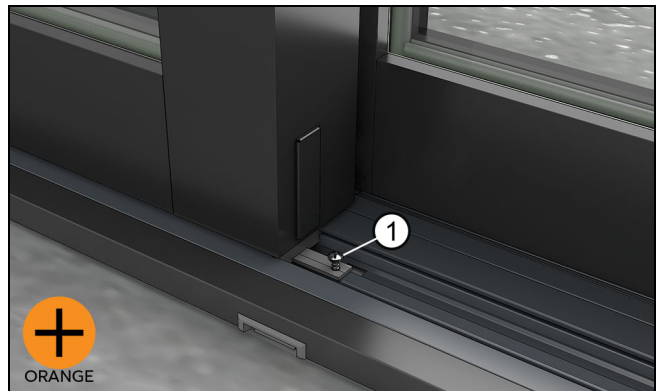

Figure 83
7. Install #8 x 7/16" Phillips self drilling screws through the bottom stationary bracket into the sill. See Figure 83